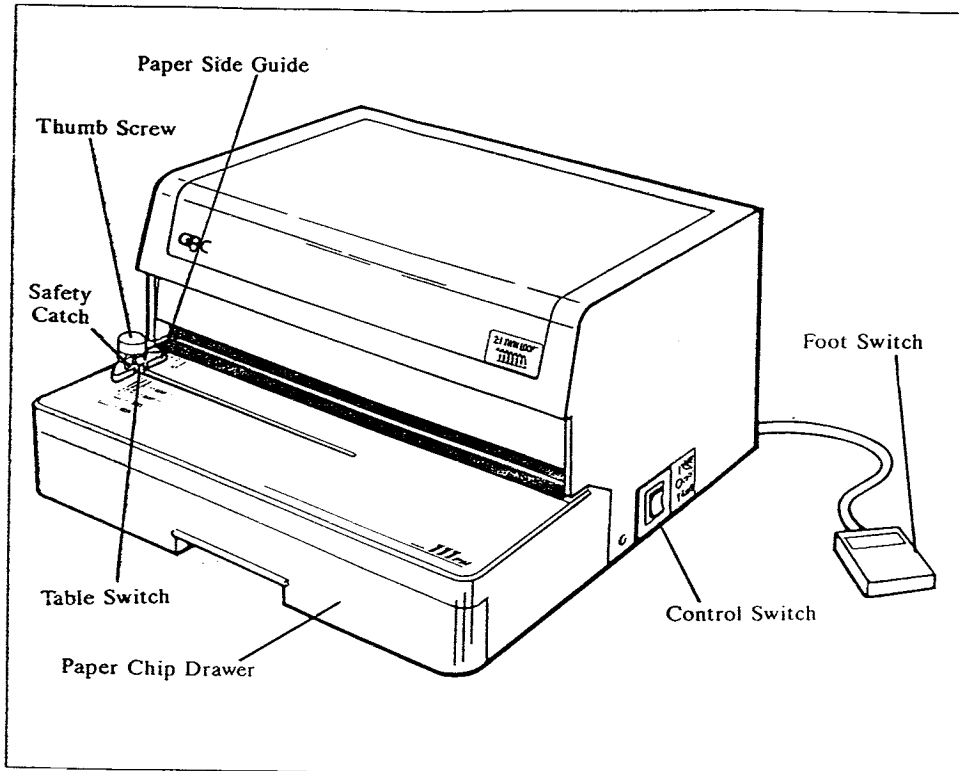

FIGURE 1.1 Know Your 111PM Sickinger Punch
Mount the rubber feet to the bottom of the unit in the four (4) threaded holes provided. Install Back Gauge Control Knob as shown in Figure 1.1.
6. Release the safety catch on the table switch (Figure 1.1). Activate the table switch without inserting your test sheet in the punch. This is done by pressing the small lever switch to the left, toward the side guide. Repeat this a few times until you become familiar with the sensitivity of the switch.